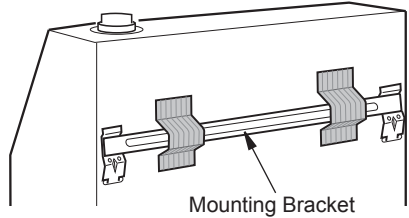

**Figure 5 - Moving Thermostat Sensing Bulb**
2. Take out the bulb clip from the hardware package and insert it into the square hole. Insert the sensing bulb into the bulb clip (see Figure 5).